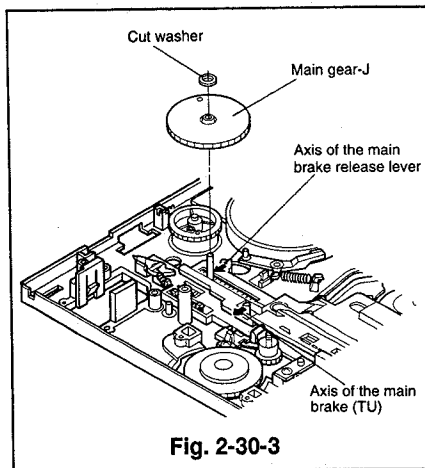
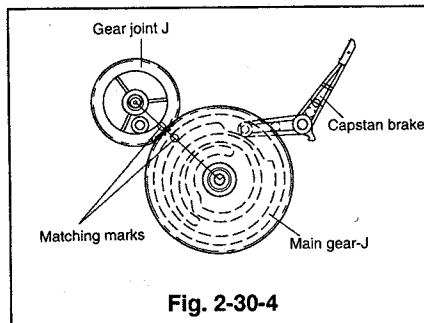

Fig. 2-30-3
Fig. 2-30-4
- 3 Push the axis of the main brake (TU) in the direction shown by the arrow until the main brake release lever moves freely. Turn the deck the right side up and shift the axis of the main brake release lever in the direction shown by the arrow. Then fix the main gear J to the shaft, with the axis of the main brake release lever held in place. Secure the main plate J with the cut washer. (Refer to Fig. 2-30-3) (Insert the pin of the capstan brake in the outside groove of the main gear J and align the matching marks of gear joint J and the main gear J.) (Refer to Fig. 2-30-4)
- ② Fix the gear joint J to the shaft so that the matching mark of the gear joint J aligns with that of the main gear as shown in Fig. 2-30-4.